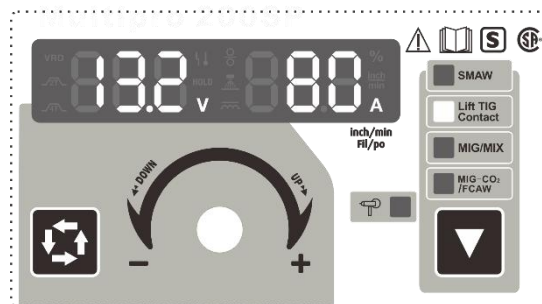

Fig.10 LIFT TIG Mode
- ③ The panel displays as **Fig.10** when perform welding, the welding voltage is 13.2V, and the current is 80A. It will return to the default state of welding current after 5 seconds of inactivity.